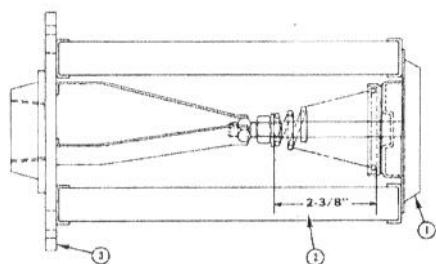

Fig. 52 — Suction Oil Filter — Used on MF 32A and MF 34A Loaders
4. Check that bypass spring is installed on bolt to dimension shown in Fig. 52 ... make sure that nut is staked to bolt threads.